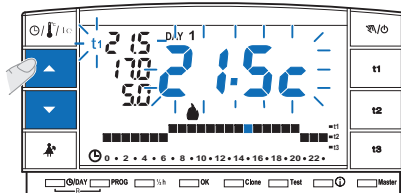

fig. 30
- Set the limit value of the desired temperature by means of the   keys (example in fig. 30).